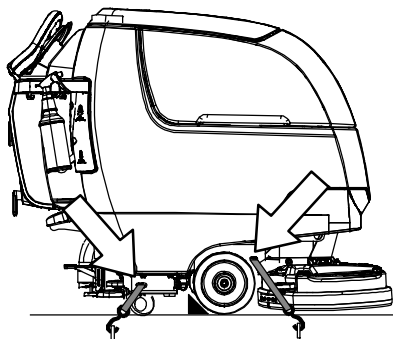

FIG. 101
3. Once loaded, position the front of the machine up against the front of the trailer or truck. Lower the scrub head, turn key off and set parking brake, if equipped (Figure 101).
4. Place a block behind each wheel (Figure 101).
5. Using tie-down straps, secure the machine using the four tie-down brackets located on the machine frame (Figure 101). It may be necessary to install tie-down brackets to the floor of your trailer or truck.